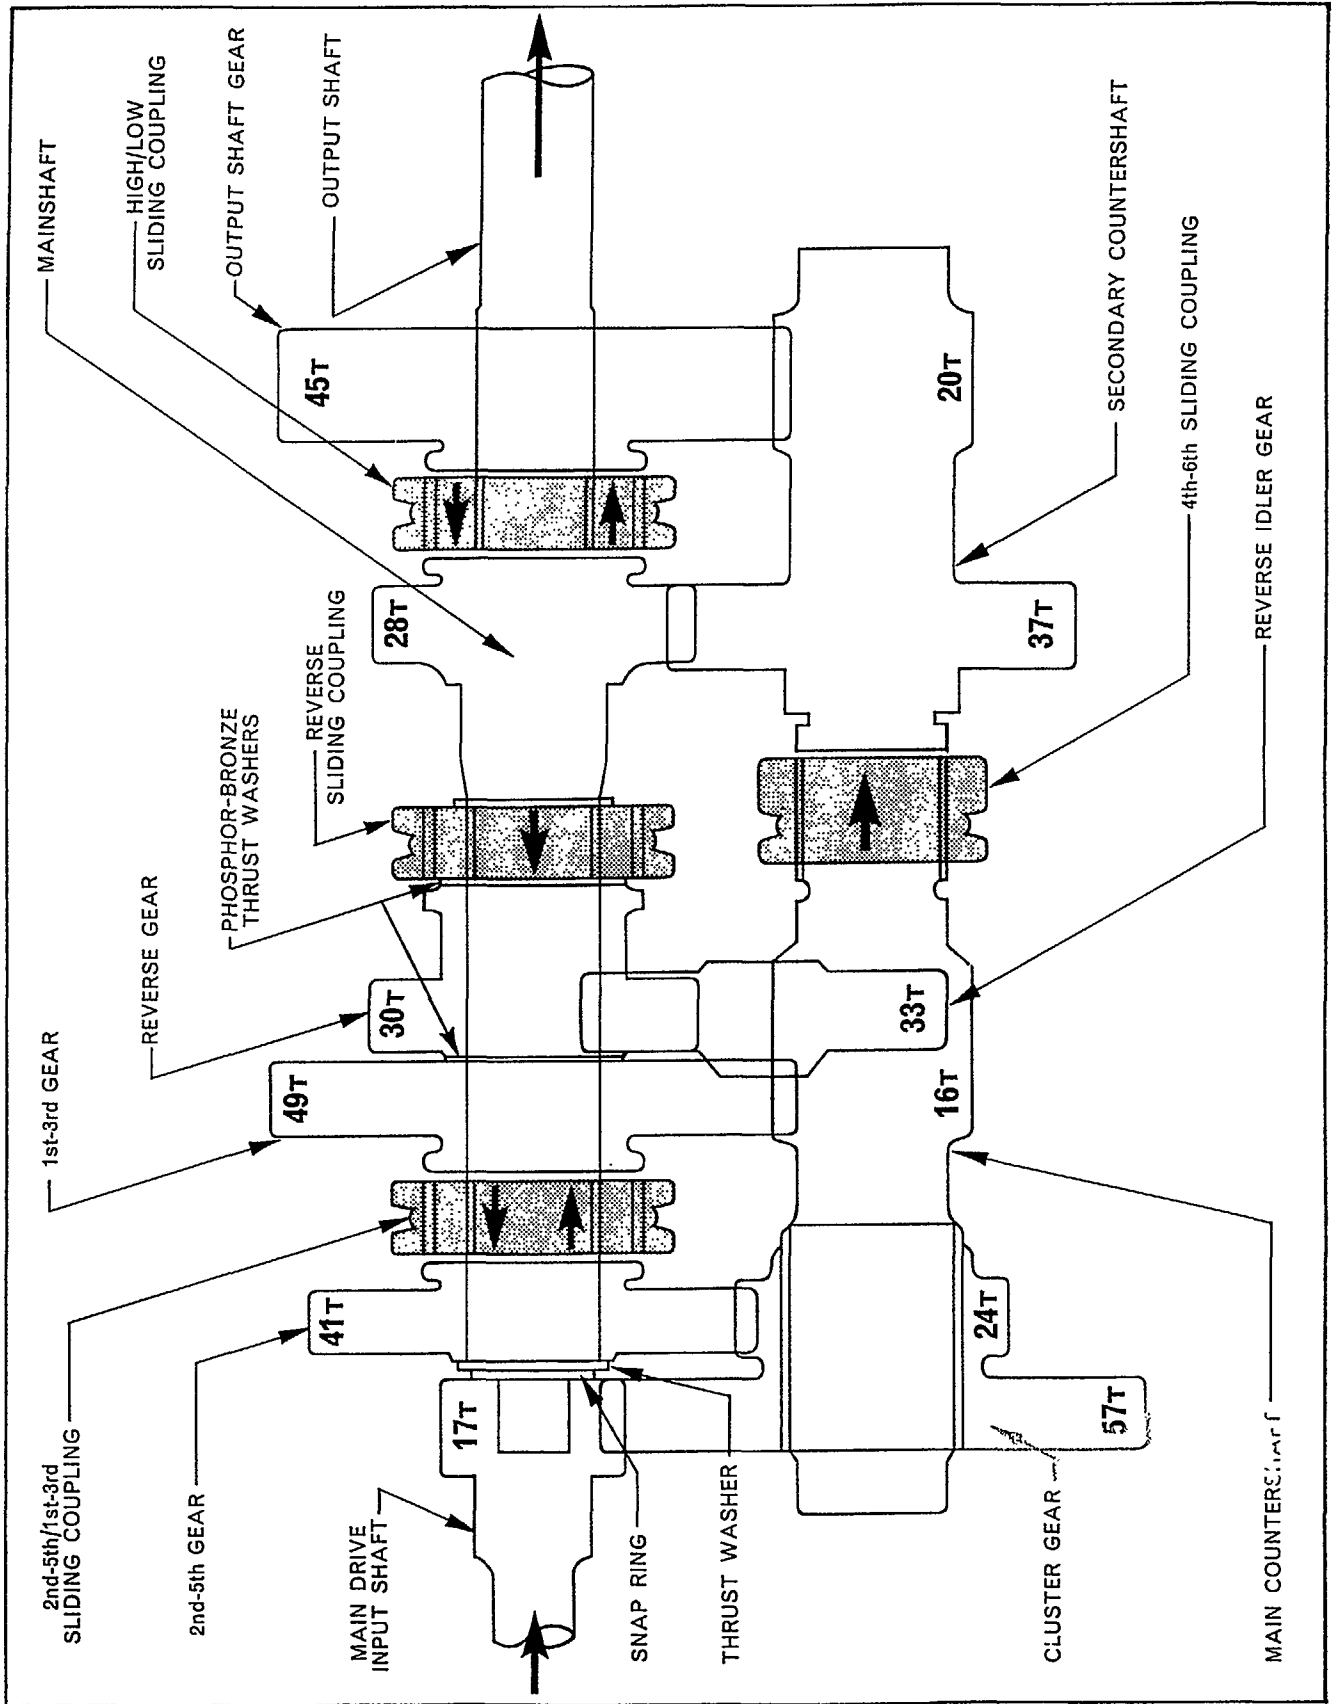

Figure 31
7. Press the output shaft pilot bearing outer track into the rear of the mainshaft using Tools Nos. 1002 and 630-8, Figure 31.
1. Pass the mainshaft through the rear compartment assembling the gears to the shaft in the following sequence, Figure 31.